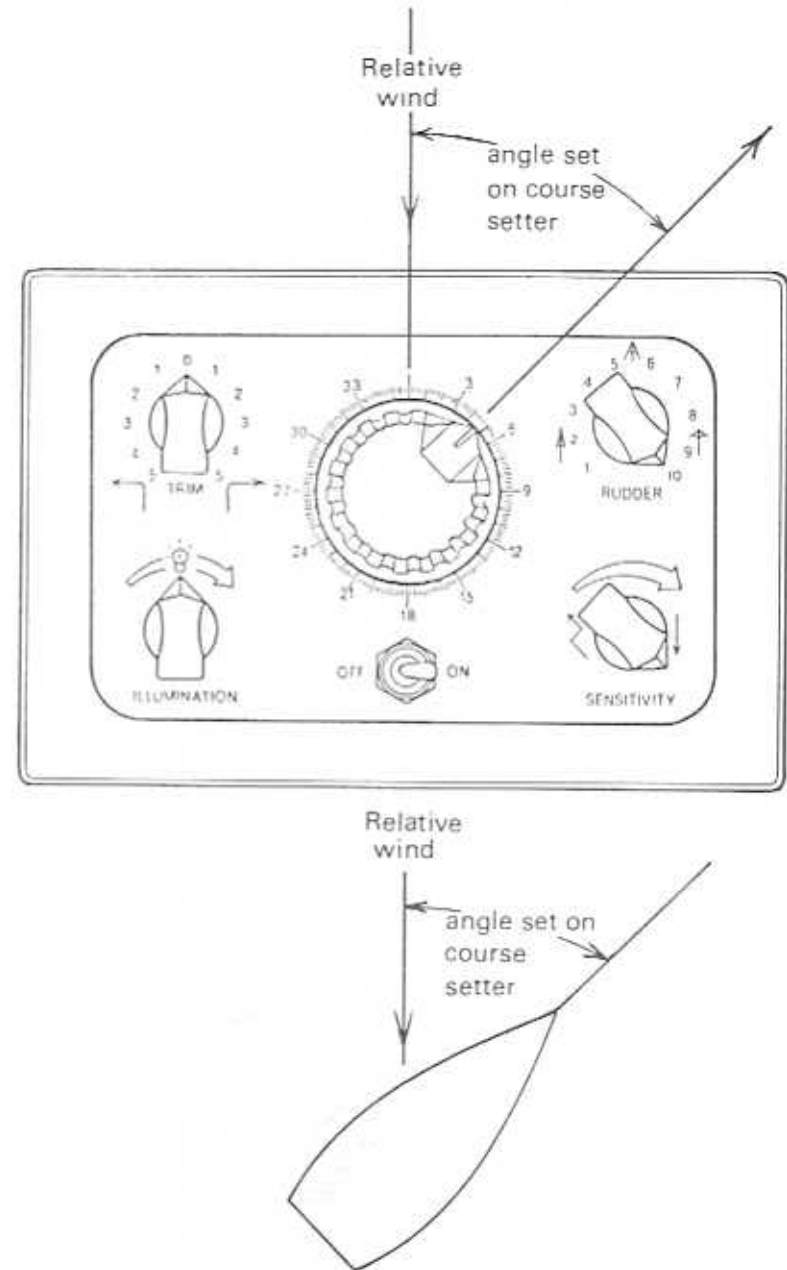

Figure 26
4. The mode of operation of the automatic pilot can be selected by the operator by switching the Switch Unit to either Compass or Wind. When switched to Compass, the required course is set on the Control Unit Course Setter. When switched to Wind, the Control Unit Course Setter is set to the angle on the bow of the Relative Wind required, as shown diagrammatically in Figure 26. The Trim Control should be set to 0, Rudder Control and Sensitivity Control to their optimum settings as described in the operating instructions. A Delay Control incorporated in the Switch Unit enables the operator to increase or decrease the delay setting to compensate for oscillation of the wind vane due to small changes in wind direction.